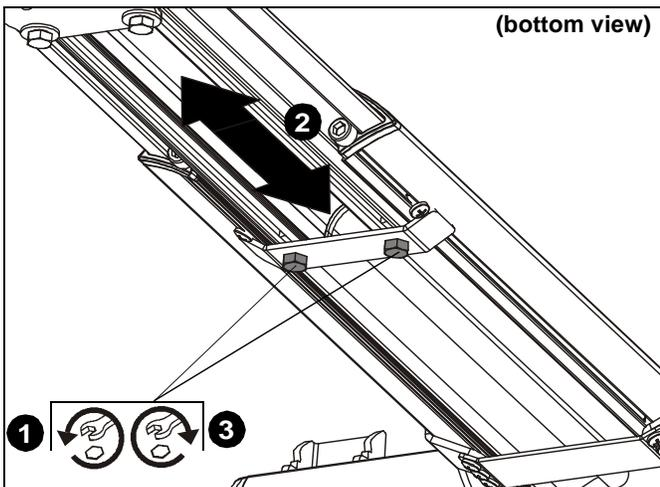

Figure 37
1. Loosen two bolts holding stop bracket in place on underside of short throw projector mount. (See Figure 37)
2. Adjust mount to desired extension length. (See Figure 37)
3. Tighten two bolts holding stop bracket to secure mount in desired position. (See Figure 37)